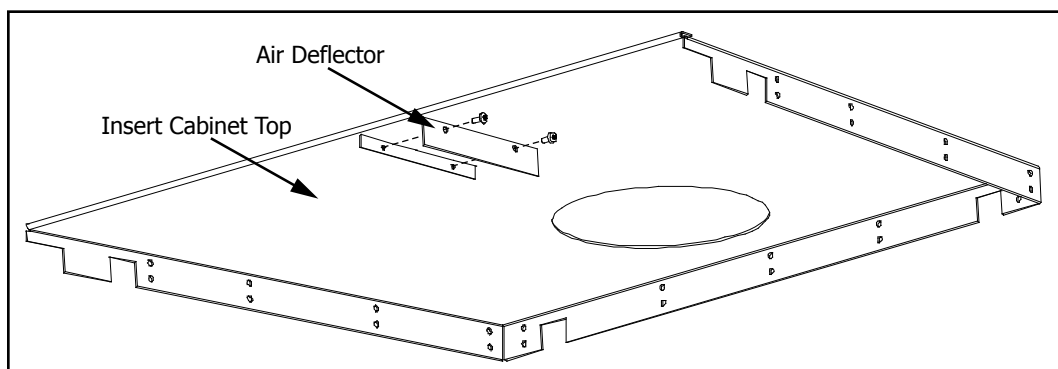

Figure 9: Removing Air Deflector onto Cabinet Top.
3. Remove the Air Deflector (shown in Figure 9) by removing the two (2) T-20 screws.